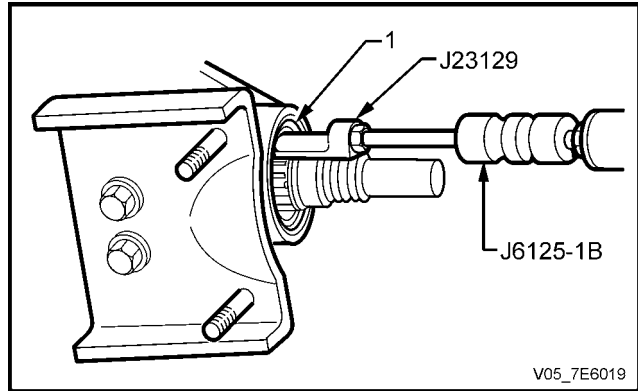

Figure 7E4 – 97
- 1 Install a NEW output shaft assembly retainer ('1' in Figure 7E4 – 70). Position the retainer over the end of the output shaft splines. The retainer will be installed to the correct depth when the output flange is installed.
- 2 Lubricate the lips of a NEW oil seal (1) then install onto the installation tool J 44765.